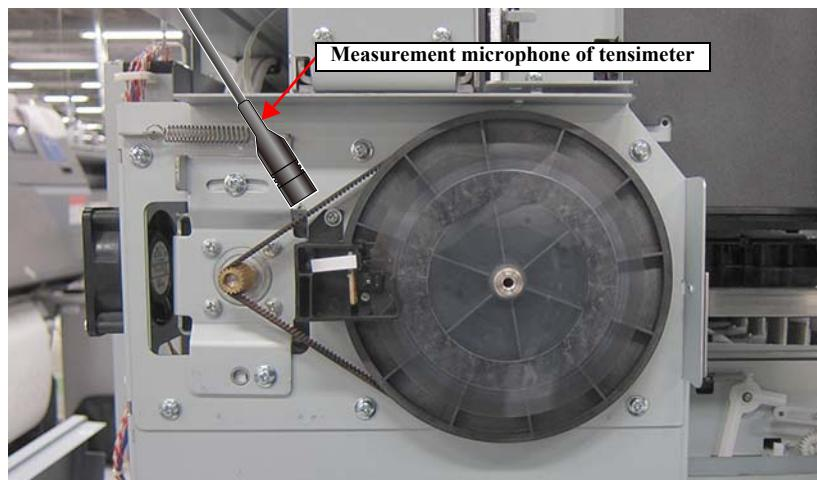

Figure 4-66.
6. Bring the measurement microphone of the tensimeter near the position indicated in Figure 4-66.